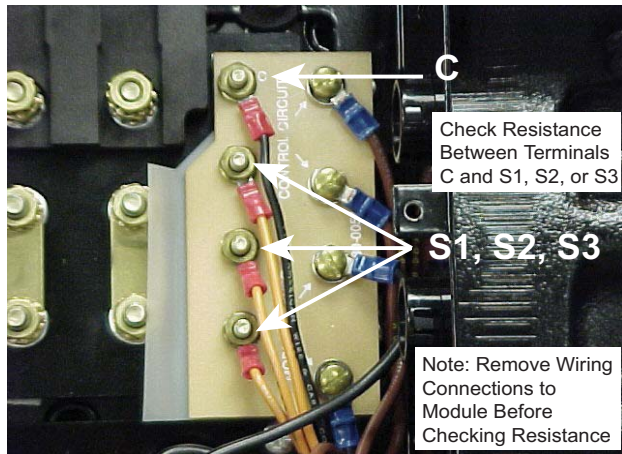

Figure 8
4. If after allowing time for motor cooling, the protector still remains open, the motor sensors may be checked as follows (see **Figure 8**):